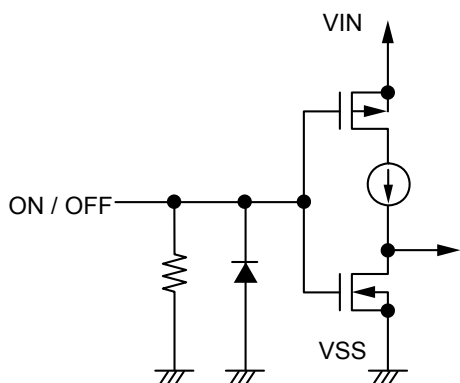

Figure 30 S-13A1 Series A / C type
When the ON / OFF pin is set to OFF level, the entire internal circuit stops operating, and the built-in P-channel MOS FET output transistor between the VIN pin and the VOUT pin is turned off, reducing current consumption significantly. Note that the current consumption increases when a voltage of 0.3 V to $V_{IN} - 0.3$ V is applied to the ON / OFF pin. The ON / OFF pin is configured as shown in **Figure 30** and **Figure 31**.
*1. Note that the IC's current consumption increases as much as current flows into the pull-down resistor of 2.5 MΩ typ. when the ON / OFF pin is connected to the VIN pin and the S-13A1 Series A / C type is operating (refer to **Figure 30**).